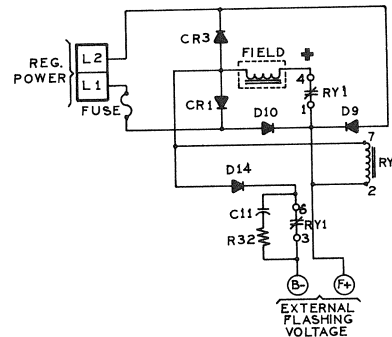

Figure 2-16 Regulator Flashing Circuit with External Flashing Voltage (Option I)
b. External Flashing -- Refer to Figure 2-16. External flashing voltage from a separate DC Source which may be either a battery or rectified AC is applied to regulator terminals B (-) and F+. Normally closed contacts in relay RY1 provide a current path around the control rectifiers (SCR1 and SCR2) to allow application of flashing voltage to the exciter field. When generator voltage reaches approximately 75% of rated, the relay pulls in allowing the control rectifiers to regulate generator voltage. Diode D4 is used as a blocking diode to prevent feedback of regulator voltage into the external flashing assembly. An RC circuit consisting of capacitor C11 and resistor R32 prevents contact arcing. Diodes D9 and D10 provide coil voltage.